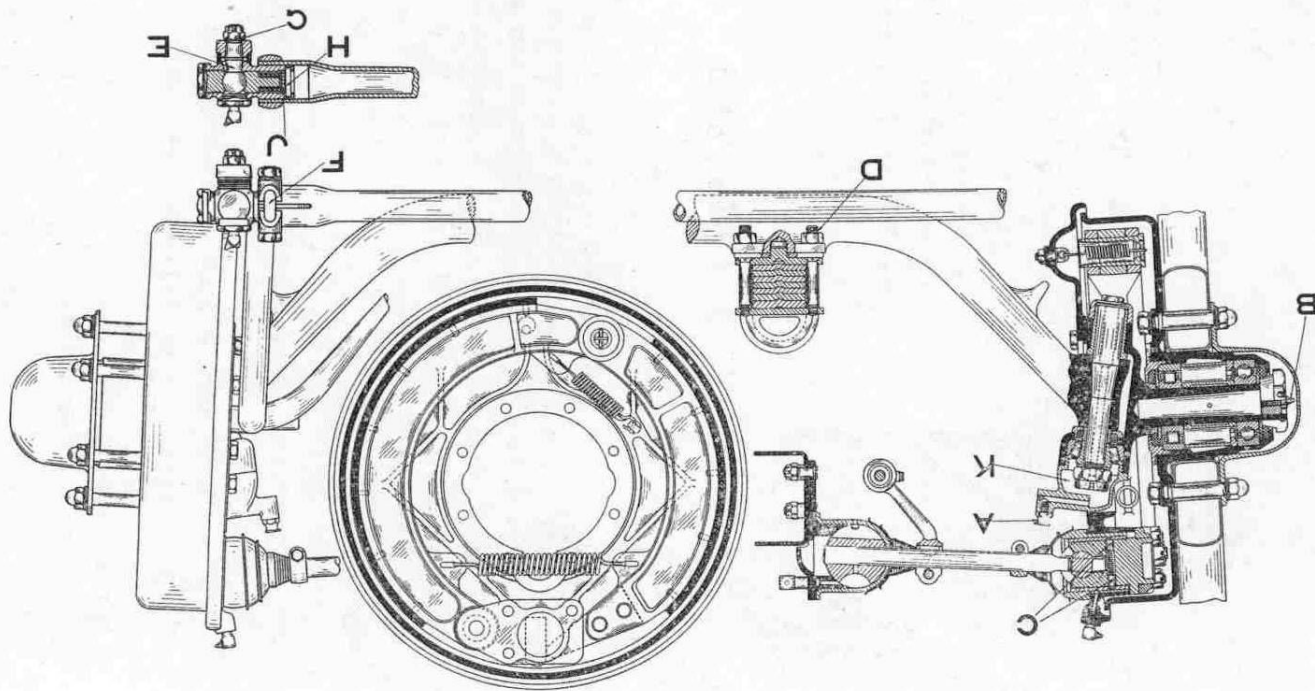

Fig. 14.—The diagram referred to on pp. 26, 49, and 50.
**TO TAKE OFF PISTONS.** To remove pistons when cylinder block has been detached, take out split pin "W" (1). The gudgeon pins can then be pressed out of piston ears. Only one split pin is fitted, and need be replaced.
**TO REMOVE SUMP.** To remove sump, undo all flange bolts "X" (1 and 2) round crankcase, also bolts holding starting handle bracket, and the six lower bolts "P" (10). Loosen also the other nuts round clutch bell housing, but do not remove. To lower sump it is necessary to swing steering tie bar out of the way. See page 50 and fig. 14 for instructions to remove steering ball joint. It is not essential to empty oil from sump before removing, but this can be done by detaching drain plugs "Y" (1).
**TO STRIP STEERING.** To disassemble steering gear, remove throttle cam "A" (5), and magneto control quadrant "B" (5). Remove bolt "C" (5) which holds quadrant at top of steering wheel. Remove horn press button and disconnect wires therefrom. The magneto and throttle controls can now be pulled clear of steering column, complete with tubes. The innermost tube can then be removed by undoing nuts "D" (5), and pulling in a downward direction. Next take off steering wheel by removing nut "E" (5), which is locked by wire ring. Then take off nut "F" (5), which holds the wheel to column, and remove bolts "Z" (1). Rotate steering column to disengage worm, and remove sloping steering column.